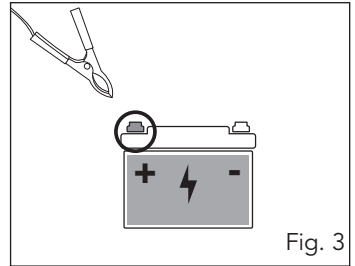

Fig. 3
1. With the vehicle engine not running, connect the red positive terminal clamp (8) to the positive (+) pole on your vehicle 12V battery (fig. 3).